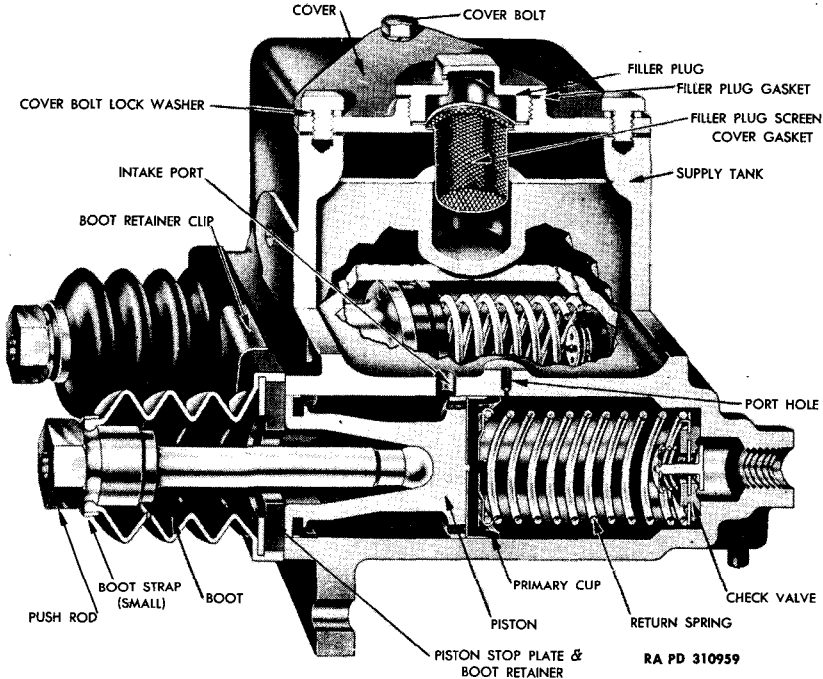

Figure 9 — Twin-bore Master Cylinder
17. DESCRIPTION (fig. 9).
18. CONSTRUCTION AND OPERATION (fig. 9).
19. DISASSEMBLY (fig. 9).